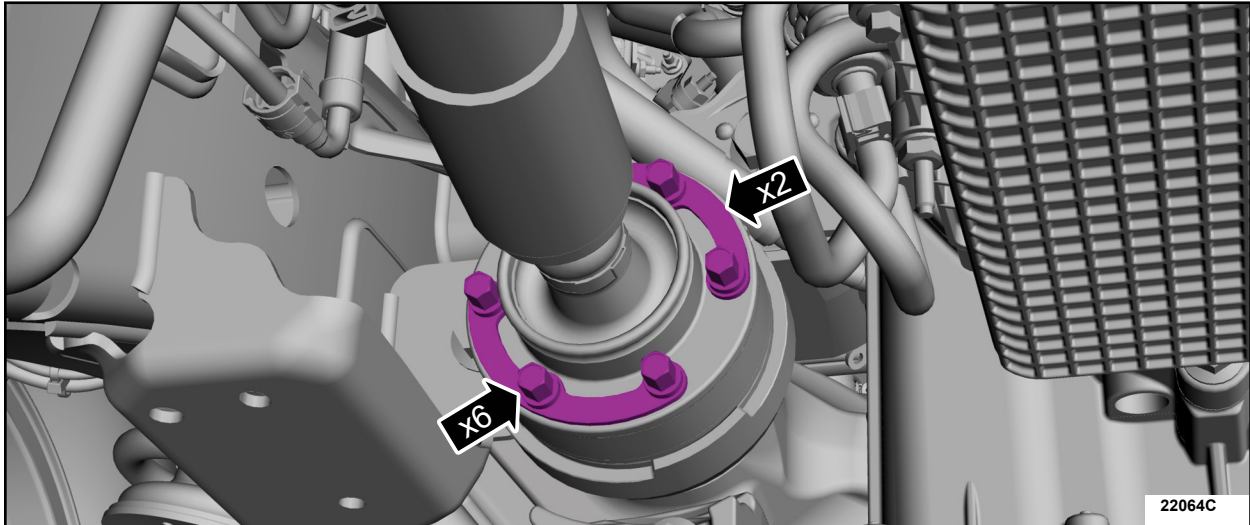

FIGURE 3
3. Remove the front driveshaft CV joint-to-pinion flange cup bolts and retaining straps. See Figure 3.